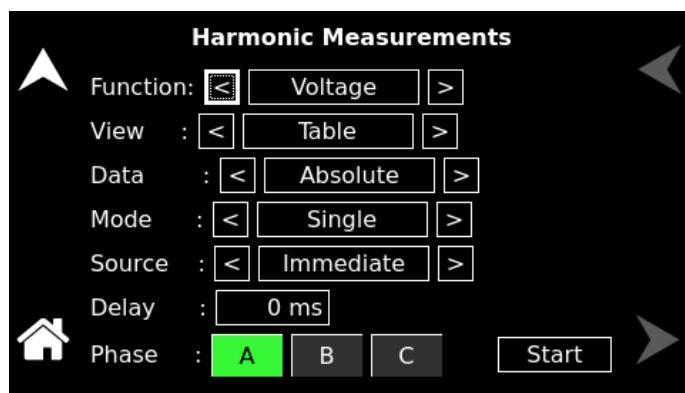

Figure 7-4: HARMONICS Menu, Triggering
Trigger mode is selected from the front panel using the MODE field in the HARMONICS menu of the MEASUREMENTS screen; refer to Figure 7-4.
Trigger sources are selected from the front panel using the SOUR(CE) field in the HARMONICS menu of the MEASUREMENTS screen; refer to Figure 7-4.